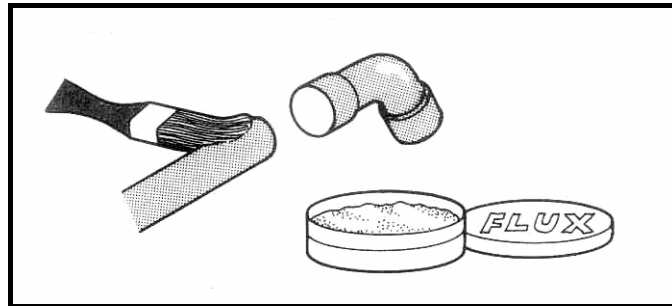

FIGURE 1.1
- D air-fuel mixture. (1)
- 1.5 What is the purpose of using flux when soft-soldering as shown in FIGURE 1.1?